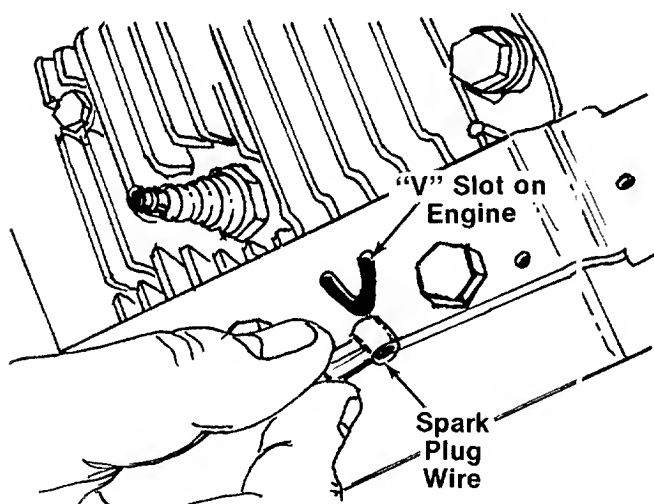

FIGURE 8.
10. To check the adjustment, disconnect the spark plug wire from spark plug to prevent accidental starting. Secure end of spark plug wire in the "V" slot on the engine. See figure 8. With the clutch grip released (neutral position), pull starter cord several times. **The tines should not turn.** If they do, adjust the hex nuts at the clutch cable bracket. Check again for correct adjustment.
Disconnect the spark plug wire from spark plug and ground against the engine block (secure in "V" slot) before making any adjustments or performing maintenance. See figure 8.
Disconnect the spark plug wire from spark plug and ground against the engine block (secure in "V" slot) before performing any maintenance. See figure 8.